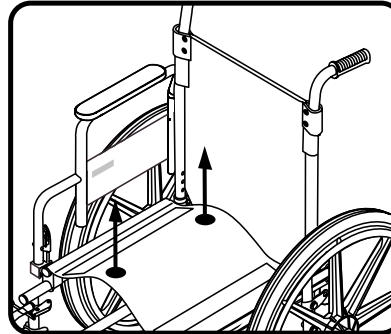

Figure 4. Folding the Pride Stylus
2. Hold the seat base by the center at the front and at the back. See figure 4.